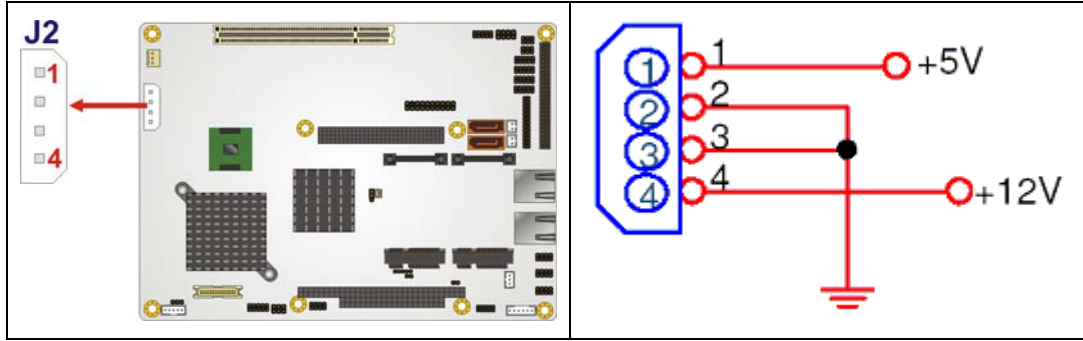

Figure 4-3: AT Power Connector Location
- CN Location:** See **Figure 4-3**